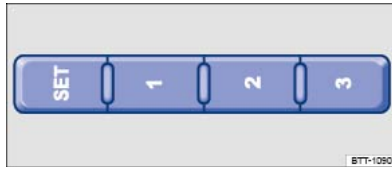

Fig. 92 On the outside of the driver seat: memory buttons.
- Press the **SET** button for longer than one second ⇒ Fig. 92.